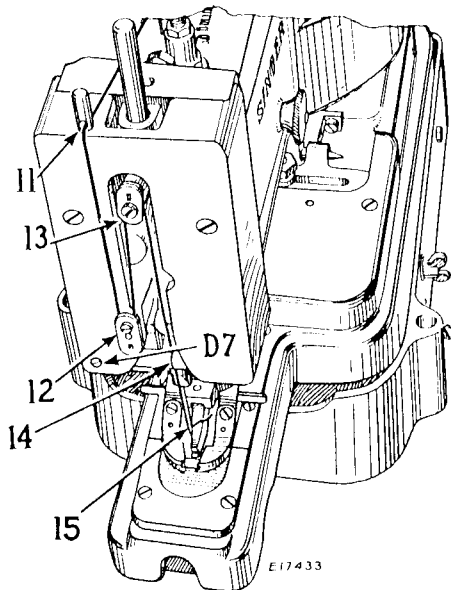
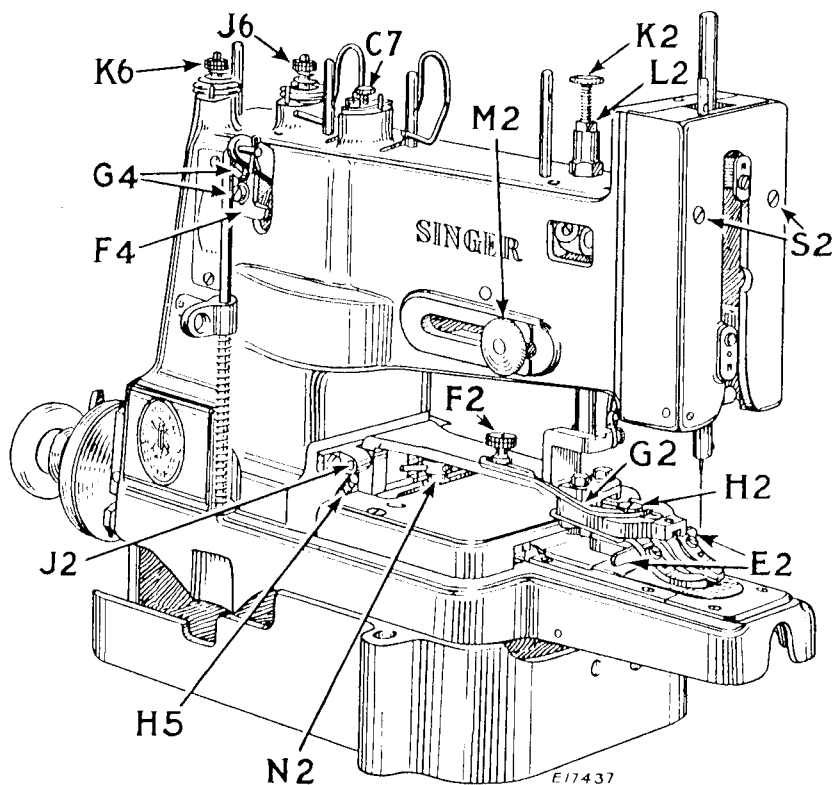
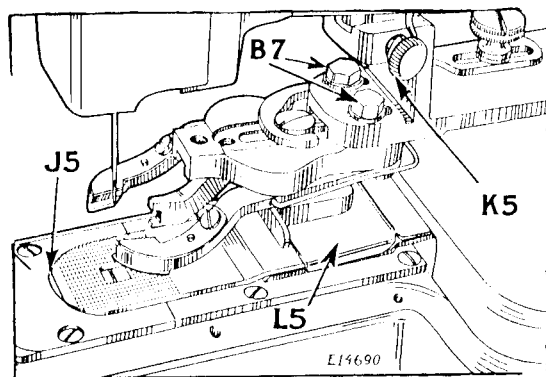

Fig. 10. Threading at Face Plate
Fig. 11. Adjustments at Left Side of Machine
Fig. 12. To Remove the Feed Plate
Remove the two screws (S2, Fig. 11) which fasten the face plate to the machine, and remove the face plate.
The thread nipper releasing screw (C7) is more clearly shown in Fig. 11 page 14.
To increase thread tension, turn thumb nut (J6, Fig. 11) downward, or upward for less tension. Face plate thread retainer (14, Fig. 10) is adjustable. Loosen screw (D7, Fig. 10) and move retainer (14) to left for more tension, or to right for less tension, then tighten screw (D7). Automatic tension (K6, Fig. 11) requires no change in adjustment other than to make sure that the thumb nut (K6) is turned down sufficiently to insure that the thread is held tightly.
Loosen the nut (L2, Fig. 11) and turn the screw (K2) downward to increase the pressure, or upward to decrease the pressure on the button clamp. When proper adjustment has been obtained, securely tighten the nut (L2).
By means of the button clamp opener (E2, Fig. 11) open the clamp and place in the clamp jaws a button of the size to be sewn. Loosen thumb screw (F2) and move the adjusting lever (G2) to a point where it just clears the button stop screw (H2). Then tighten the thumb screw (F2).
To change adjustment from four-hole to two-hole buttons, remove hinge pin (H5, Fig. 11) and insert this pin in the hole (J2) immediately above.
To change from two-hole to four-hole buttons, reverse the operation, inserting pin (H5) in the lower hole as shown in Fig. 11.
The forward and backward motion of the button clamp, which motion is utilized when the machine is sewing four-hole buttons, is regulated by means of the feed plate carrier regulating nut (N2, Fig. 11). This regulating nut is provided with four holes for its handle. Screw the handle into whichever one of the four holes will bring the handle into the most accessible position. By means of the handle on the nut (N2), loosen the nut and move it to the left to increase the movement of the button clamp, or move it to the right for less movement of the clamp. When proper adjustment is obtained, securely tighten the nut (N2).
Make certain that the hinge pin (H5, Fig. 11) is in the upper hole (J2).
To regulate the spread of the Dubbilstay stitch, loosen nut (N2, Fig. 11) and move it to left or to right until the desired spread of stitch is obtained, then securely tighten nut (N2).
To change the extent of needle bar vibration, loosen nut (M2, Fig. 11). By means of the nut (M2), move the slide toward the needle to decrease the width of vibration, or away from the needle to increase the width of vibration, then tighten nut (M2).
Should adjustment become necessary, loosen the two screws (B7, Fig. 12, page 16) and adjust forward, backward, to left or right as may be required, then securely tighten the screws (B7).
Unscrew thumb screw (K5, Fig. 12) from button clamp, then remove hinge pin (H5, Fig. 11). Slightly raise presser bar to relieve pressure on clamp, and remove clamp from machine. To replace, reverse the operation, first inserting hinge pin (H5) in either upper or lower pin hole, depending upon whether two-hole or four-hole button is used. See first two paragraphs of page 15.
CAUTION - Never pry up the spring (L5, Figs. 12 and 18) as this would probably injure the spring or render it useless.
NOTE - When sewing shank buttons, position the nut (N2, Fig. 11) as far as it will go to the right (as when sewing two hole flat buttons) to stop the forward and backward motion of the feed plate. See the first paragraph of page 15.